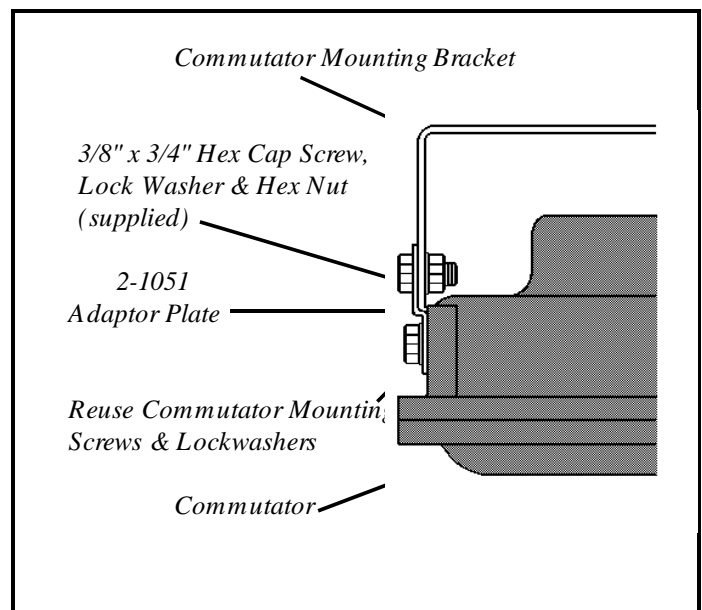

*Figure 3 (MSSM0231AE)
3. Apply a fuel resistant coating (such as 3M EC-776) to the surface shown in figure 3. Mount gasket and apply additional coating on top of gasket. Apply coating to bearing housing seating surface within shell.
5. Install **new locking tabs** onto the mounting bolts and apply a hard setting gasket sealant (such as Permatex 1C) onto bolt threads. Install bolts and tighten them gradually in an alternating pattern. Tighten bolts to **200 ft/lbs** following the tightening sequence in figure 3.